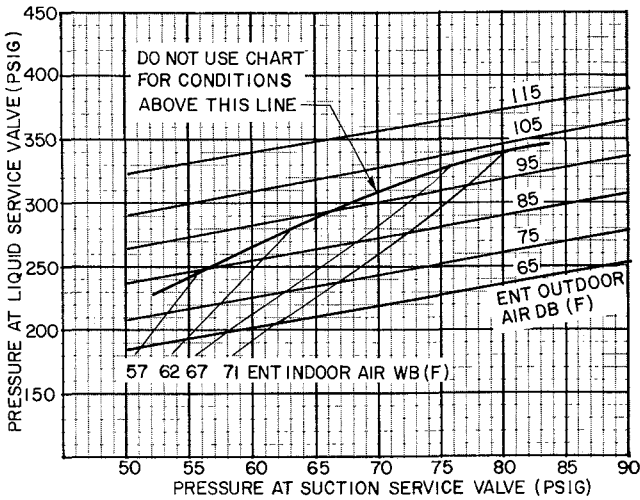

Fig. 18 – 38GC103310, 320; 38GF103310, 320/28GC or 40GC003 Charging Chart
*Use Charging Charts, Fig. 18 or 20 for 38GC103310,320, 38GF 103310,320/28GC, 40GC systems.